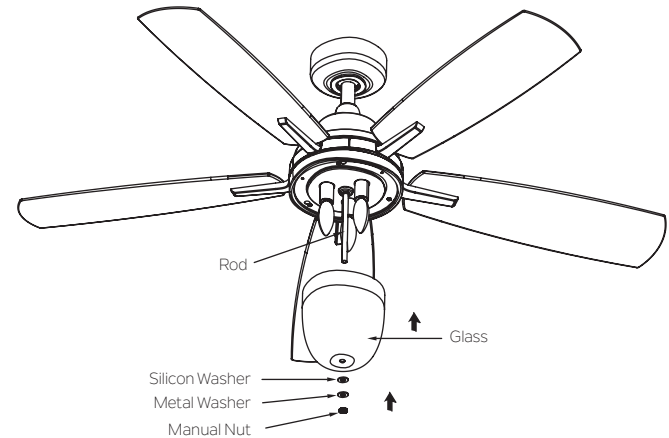

Fig. 23
**Step 4.** Hold the glass up through the rod, secure with silicon washer, metal washer and manual nut. (Fig.23)